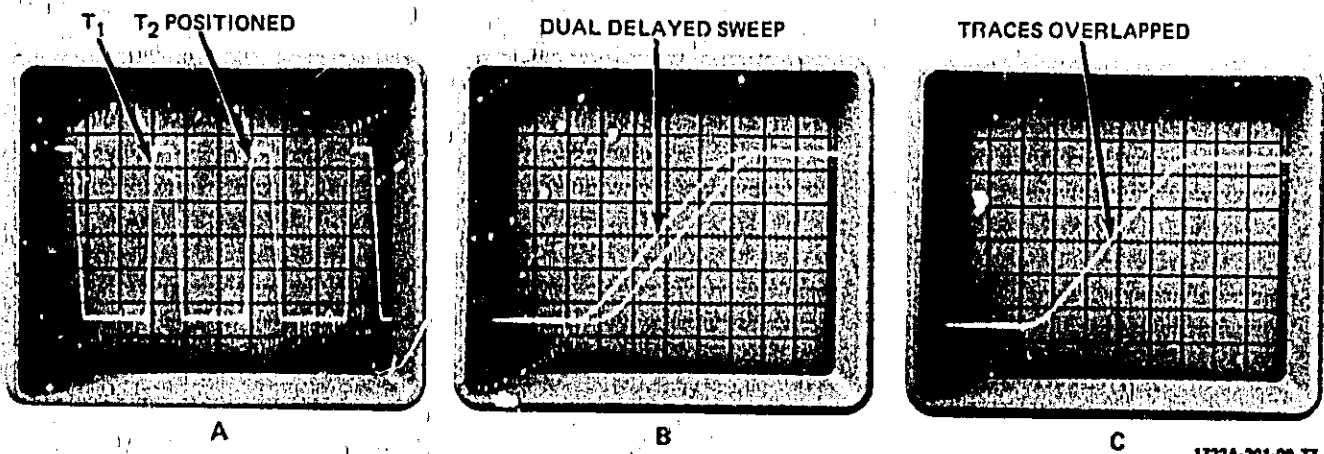

Figure 3-4. Time Interval Measurement
- g. Using DELAY control, position first intensified spot to starting point of interval to be measured (A in figure 3-4).
- h. Using DEC/INC controls, position second intensified spot to end point of interval being measured (B in figure 3-4).
- j. Using DEC/INC controls, superimpose two waveforms observed (B and C in figure 3-4).